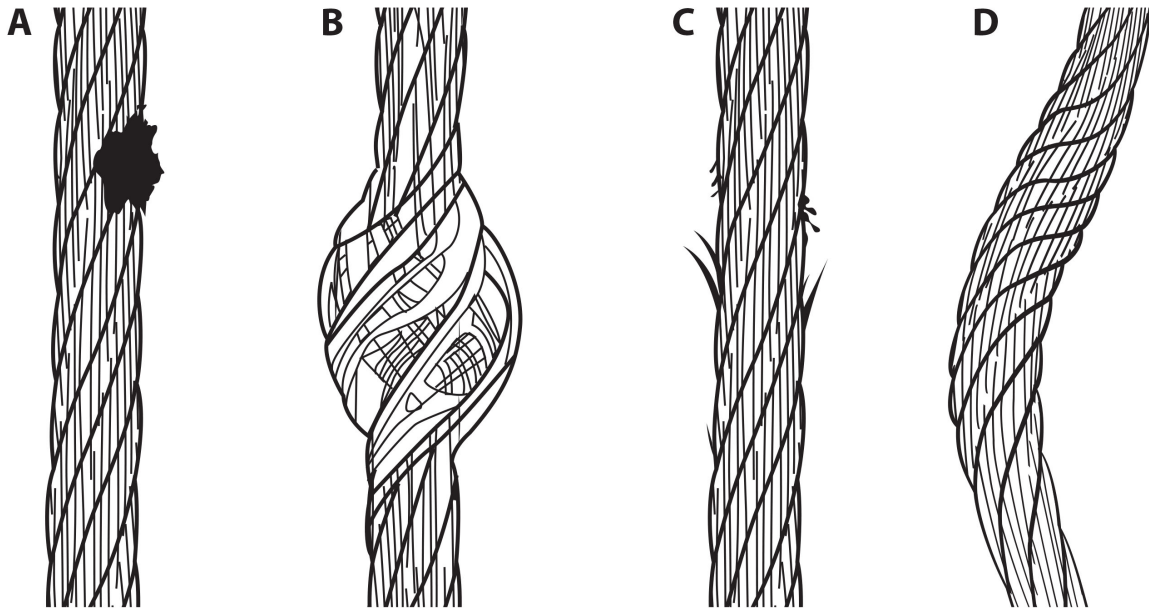

Figure 3A: Inspection of Constituent Cable
4.3 Use of the Winch: Inspect the winch and cable before each use in accordance with the procedures in Section 7 of this manual. Ensure the cable is in proper working order, with no damage or deformities. See Figure 3A. Ensure the support structure is configured for maximum efficiency, and correctly oriented. The device should be at a comfortable height for use. Adjust device bracket if necessary. Reeve the cable onto the pulley. Ensure the material is secured to prevent objects and parts or pieces from falling during the hoisting and lowering process. Attach the winch leg end connector to the material. Rotate the crank handle counterclockwise to lower the material into a confined space and clockwise to raise the material from a confined space.
Prior to each use, inspect the entire unit, including the leg end connector, for signs of corrosion, cracks, deformities and broken or missing parts. Inspect the wire rope for cuts, abrasions, weld spatter, arc damage, fishhooks, broken strands, kinks, birdcaging, anytype of debris, as shown in Figure 3A.